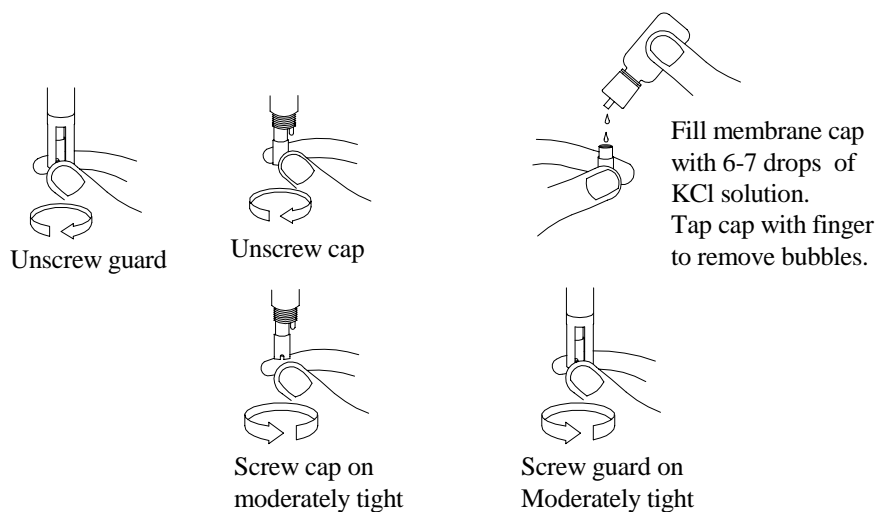

Figure 2
1. Unscrew and remove the probe guard. See figure 2.